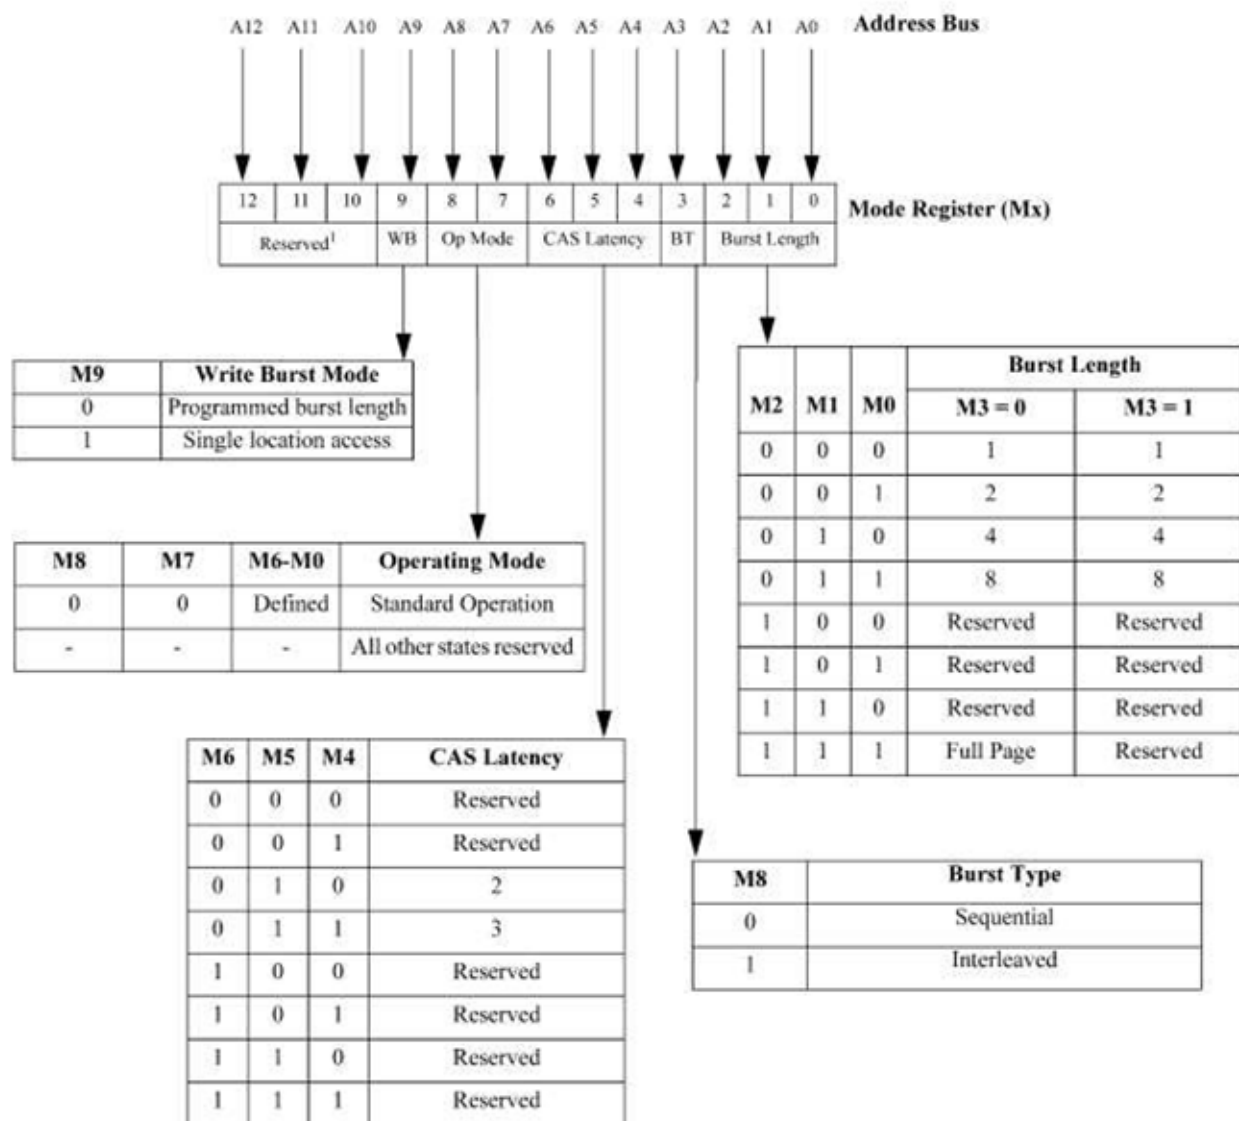

Figure 4: Mode Register Definition
The mode register is used to set a specific mode of operation for the SDRAM. These definitions include Burst length (BL), the CAS latency (C_L), and the write burst mode as shown in Figure 4. The mode register is programmed using the LOAD MODE REGISTER command and retains the stored setting information until either reprogrammed or device power is lost. Mode register bits M0-M2 specifies the BL, M3 specifies the type of burst (sequential or interleaved), M4-M6 specify the CL, M7 and M8 specifies the operation mode, M9 specifies the write burst mode, M10 and M11 are reserved. Address M12 is undefined, but should be driven low during mode register programming. All references to bit(s) Mx in this document affect the mode register.